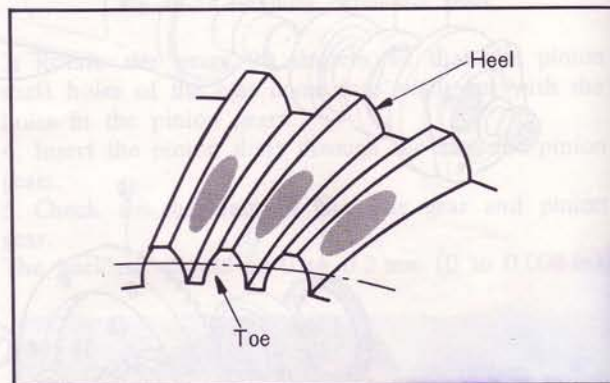

Fig. 9-26 Correct tooth contact
- If the pinion position and backlash have been correctly set, the contact pattern should be as shown in Fig. 9-26.